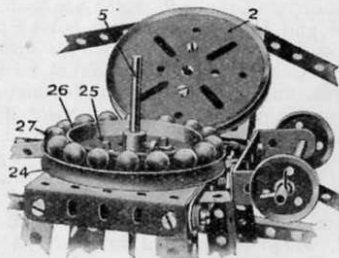

Fig. 4.60B]
*Alternative Construction.* In order to make the jib swivel more freely, a ball-race, Fig. 4.60B, may be fitted. This is made by bolting to the top of the frame a 3" Pulley Wheel 24 by Bolts 25 which also secure in the Pulley Wheel 24 a Wheel Flange 26. This provides a circular groove for the reception of the Ball Bearings 27. The Pulley Wheel 2 which is bolted to the gear-box 1 is then placed over the Rod 5 and rests on the Ball Bearings 27, which thus support the weight of the superstructure.